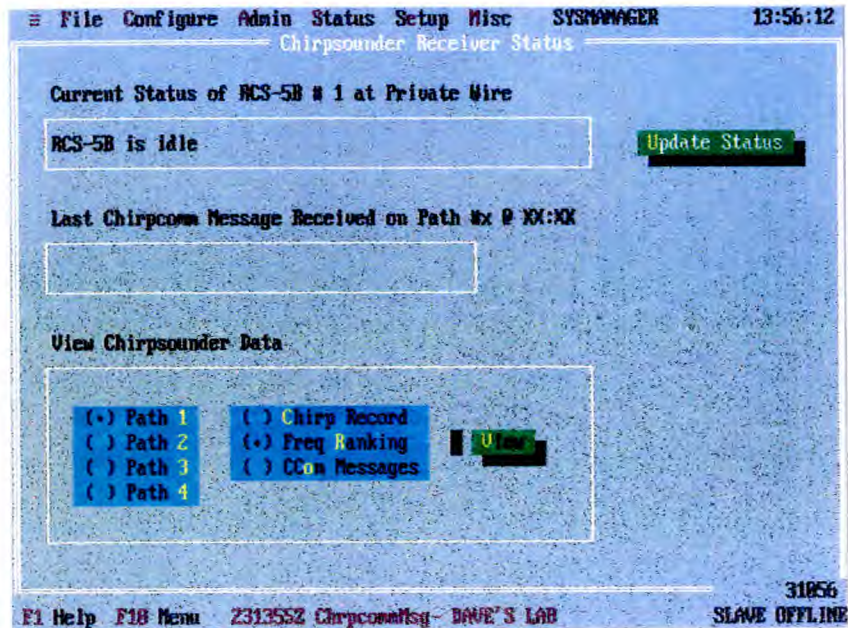

Fig 39
4 Screen (Fig 39), "Chirpsounder Receiver Status", displays the status (including the most recently received Chirpcomm message) for the selected RCS-5B.
- 4.9 Press the ESC key to return to screen Fig 39.